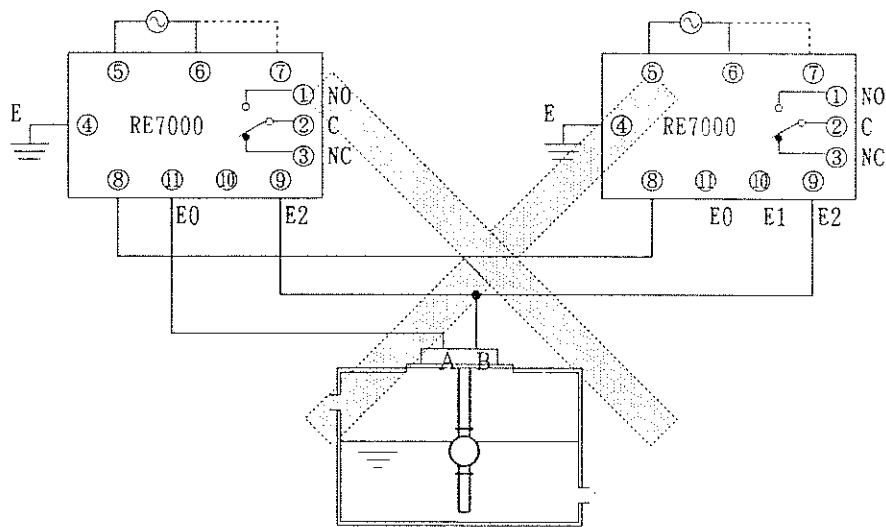

Fig. 7
- (1) Do not connect the plural relay unit to identical switch. Otherwise, the relay unit may be malfunction. (See Fig. 7)